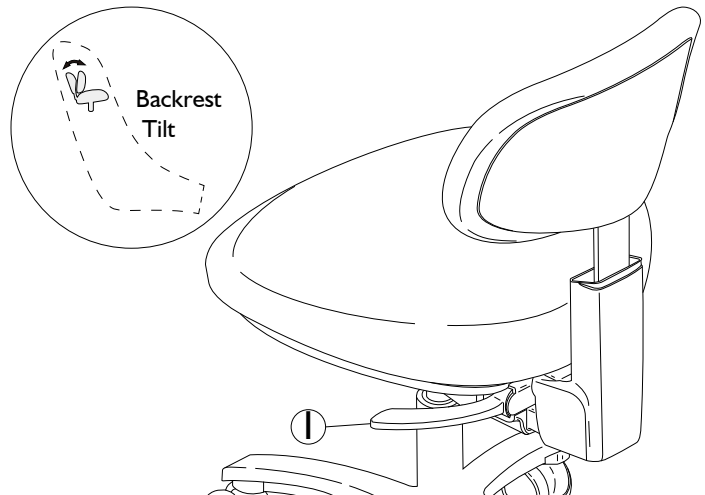

Figure 5: Adjusting Backrest Tilt - Clinician's Stool
1. Push the Lever down and release (Figure 5, item 1) and adjust backrest tilt until the desired position is reached.